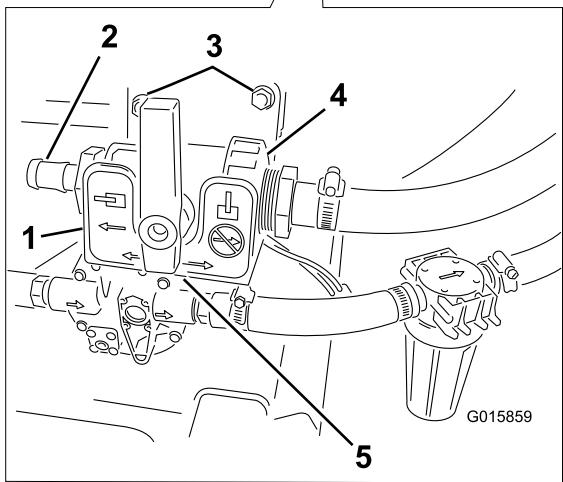

Figure 30
2. Secure the ball valve to the valve mount bracket with 2 hex-head bolts (1/4 x 3/4 inch) (Figure 30).
3. Install the ball valve and valve mount bracket to the machine with 2 hex-head bolts (5/16 x 1 inch) and 2 flange nuts (5/16 inch) (Figure 30).